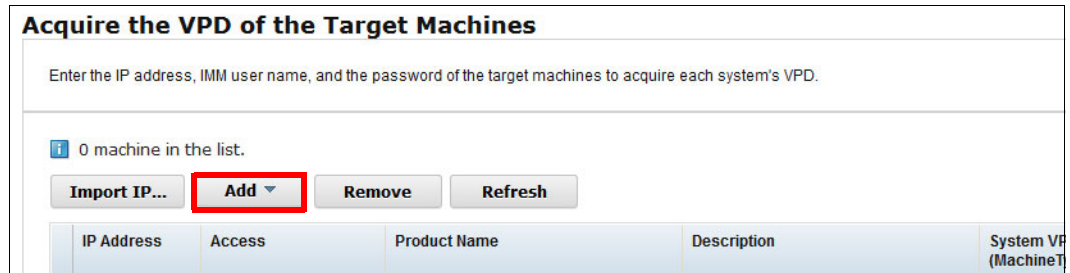
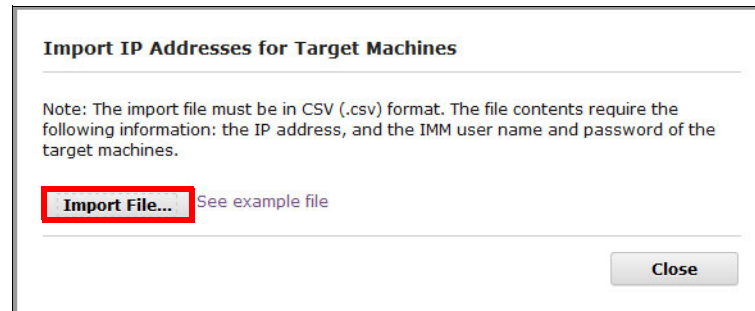

Figure 3-54 Acquire VPD menu
Figure 3-55 Import CSV dialog box
- Click **Add** to manually add values (as shown in Figure 3-54) or click **Import File**, as shown in Figure 3-55.